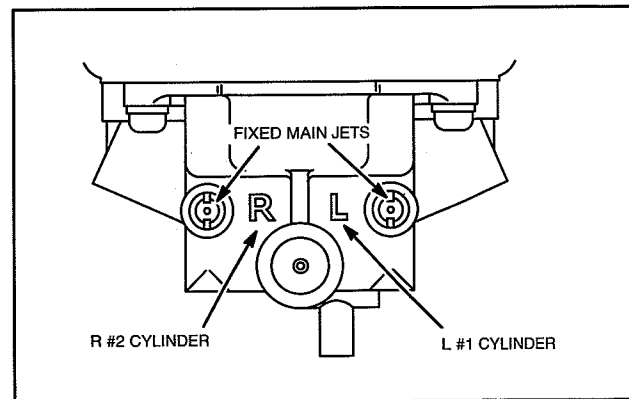

Fig. 57 – Install Main Jets
- 9. Install fixed main jets, plugs and washers, Fig. 57.